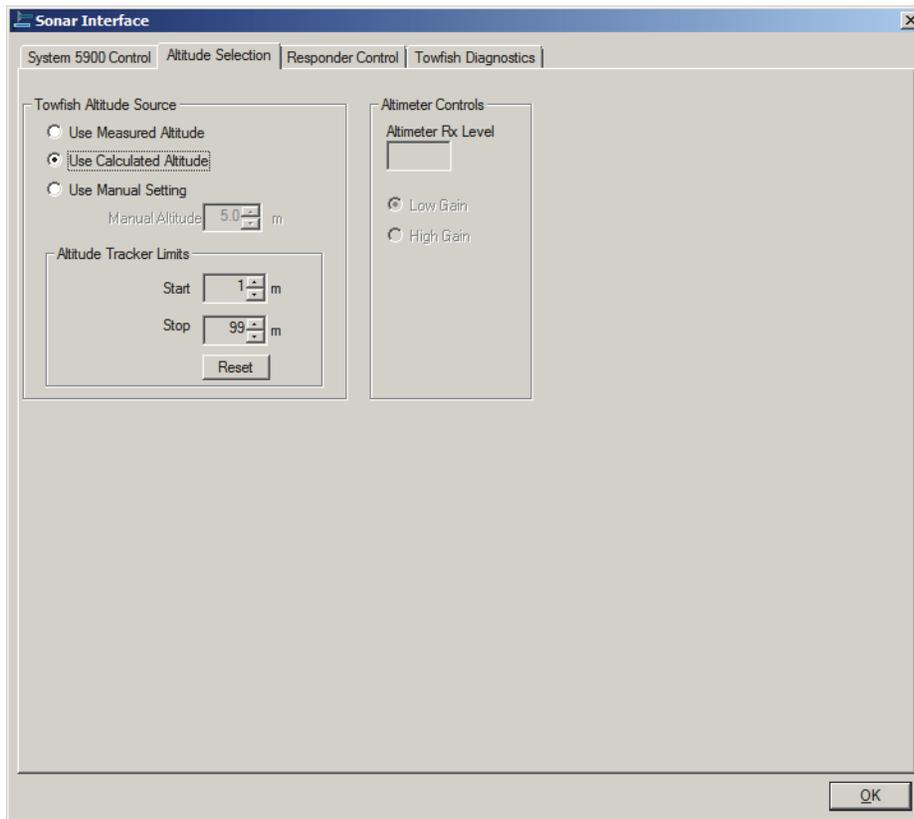

Figure 80: *The Sonar Interface Dialog Box, Series 5900 Sonar System—Altitude Selection Tab with the Use Calculated Altitude Option Selected*
- Select **Use Calculated Altitude** to use the bathymetric channel returns instead of the altimeter to determine the altitude of the towfish. This option is available as a backup altitude tracker should the environmental conditions be too complex for the altimeter to function properly or if the altimeter is not functioning. When selected, the **Altitude Tracker Limits** scroll box appears on the *Altitude Selection* tab as shown in Figure 80. During real-time operation these controls allow you set lower and upper altitude tracker limits between which altitude tracking will track the bottom. Altitude tracking will not be performed outside these limits. The limit settings are especially useful when operating in shallow water where surface returns may interfere with altitude tracking. To return the altitude tracker limit settings to their original settings, click **Reset**.